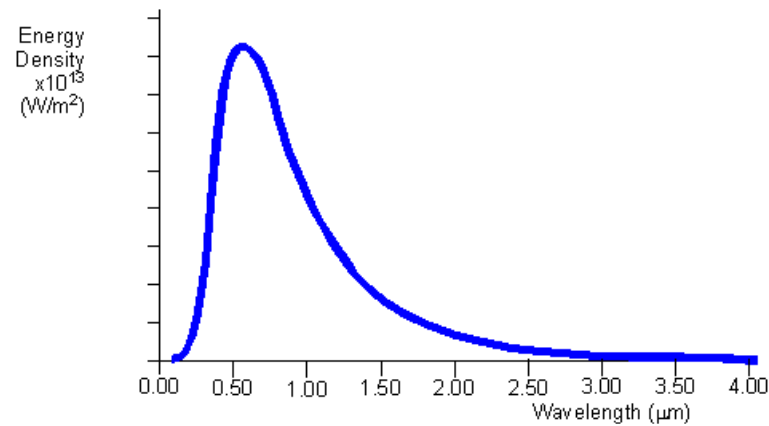

Figure 1: Theoretical black body curve for 5000K
- The maximum wavelength emitted by a blackbody radiator is infinite. It also emits a definite amount of energy at each wavelength for a particular temperature, so standard black body radiation curves can be drawn for each temperature, showing the energy radiated at each wavelength (Fig. 1).